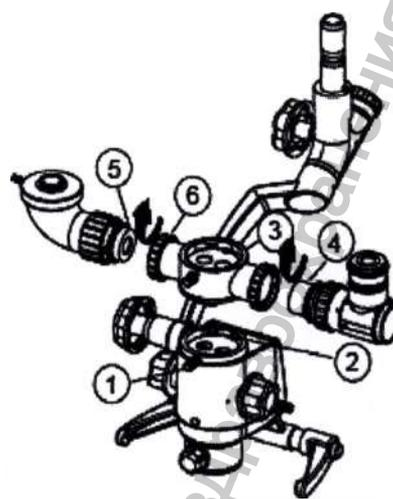

Fig. 30
13.9 Installation of beam splitter with adapter for Sony Handy cam and adapter for CCD camera (fig.30):